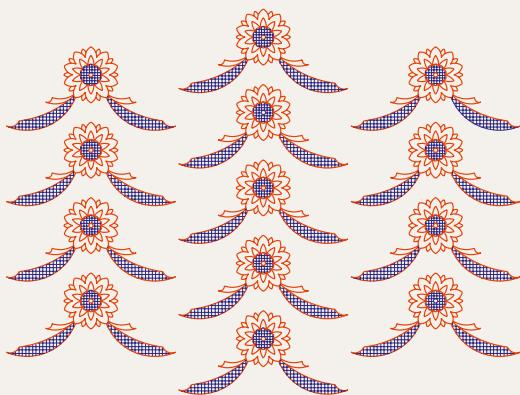

Fig. 10.25 Exercise 1 – original pattern
- Fig. 10.25 shows a pattern formed by inserting an external reference and then copying or arraying the external reference.